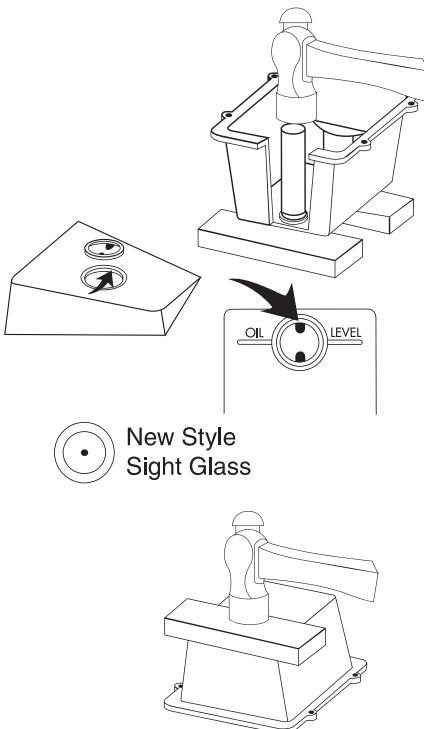

Figure 21
Step 1: With cover off of the pump, lay on two blocks of wood. Pop out the sight glass using a broom handle or other object as a punch. For DV-85 series, DV-142 series, or DV-200 series use a 1" diameter punch (Figure 21).